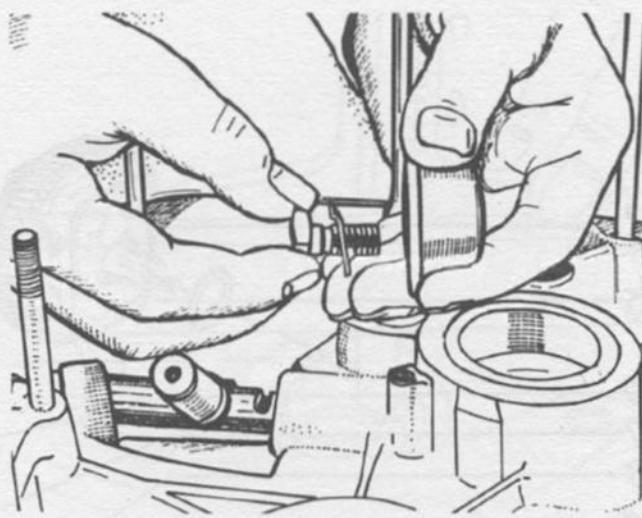

FIG 6:22 Transmission bushing cover removal
- 5 Refer to FIG 6:15 and remove the second gearwheel together with the catch and synchronizer rings from the layshaft. This should be done carefully to ensure that the spacer keys do not fall out.